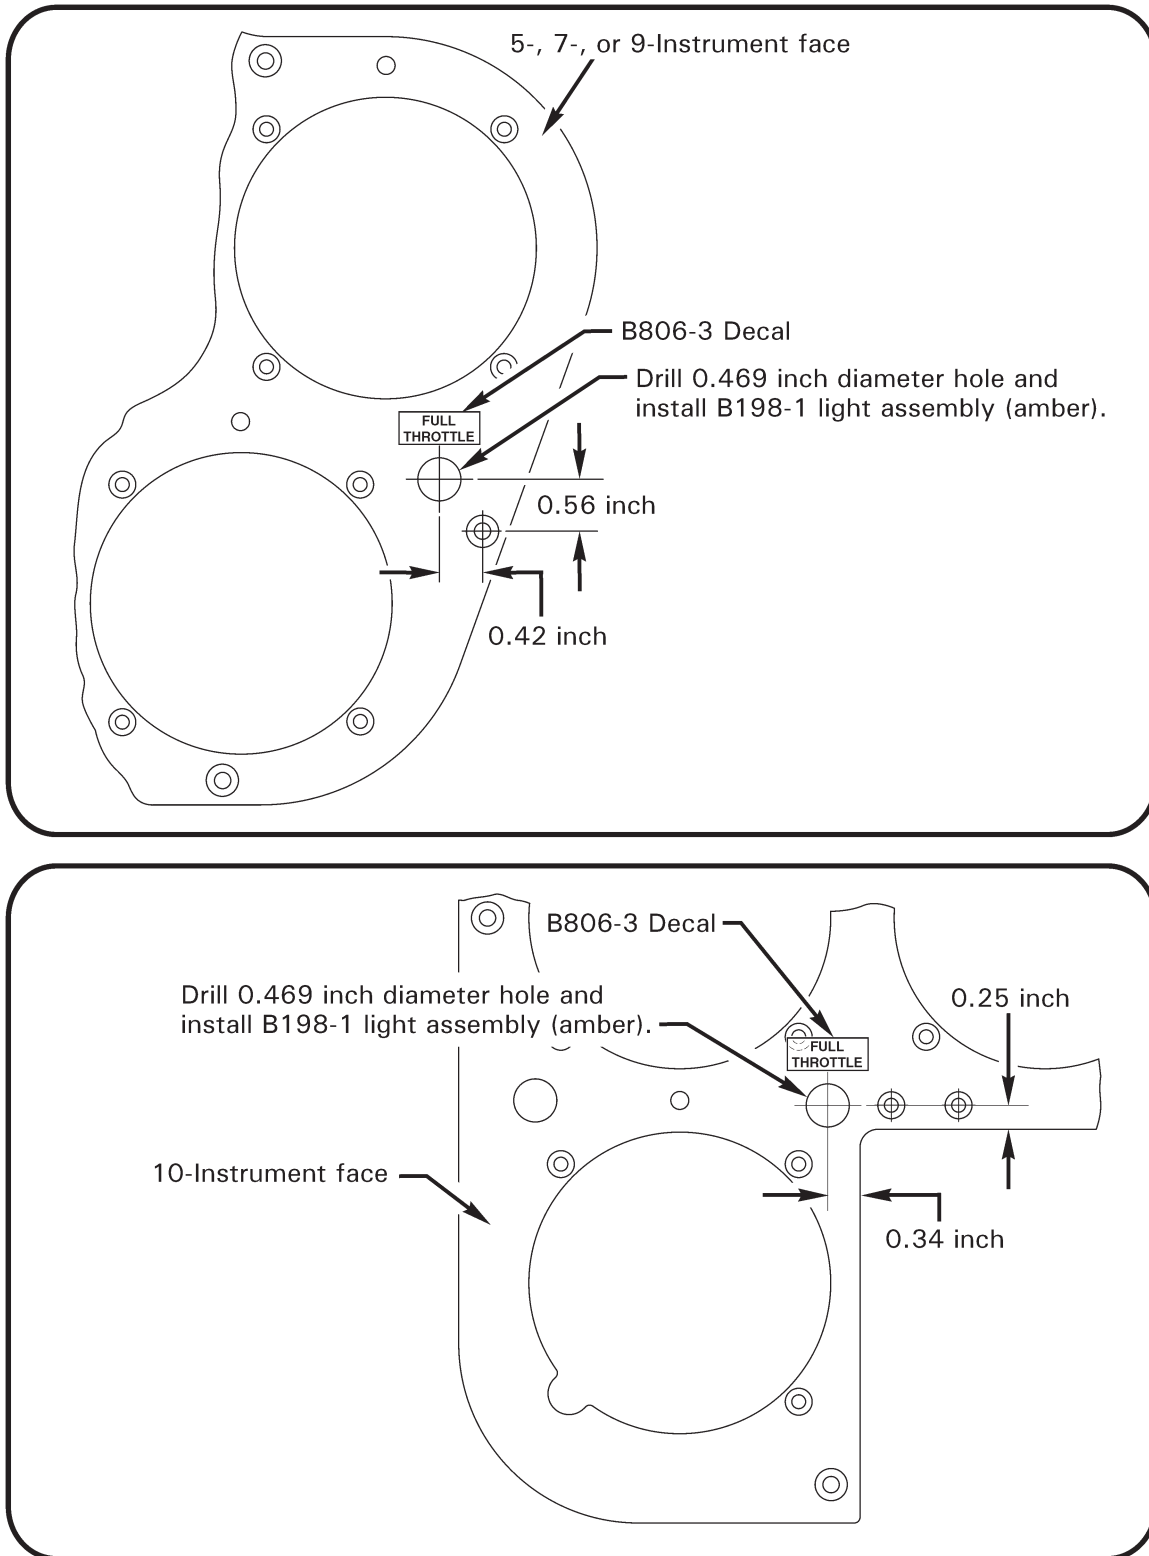

FIGURE 4
11. Refer to Figure 4. Lay out hole in face. Drill one 0.098-inch diameter pilot hole and enlarge to 0.469-inch diameter hole using a step-up drill bit. Remove drilling debris and deburr hole.
20. Refer to Figure 4. Install B806-3 decal as shown.